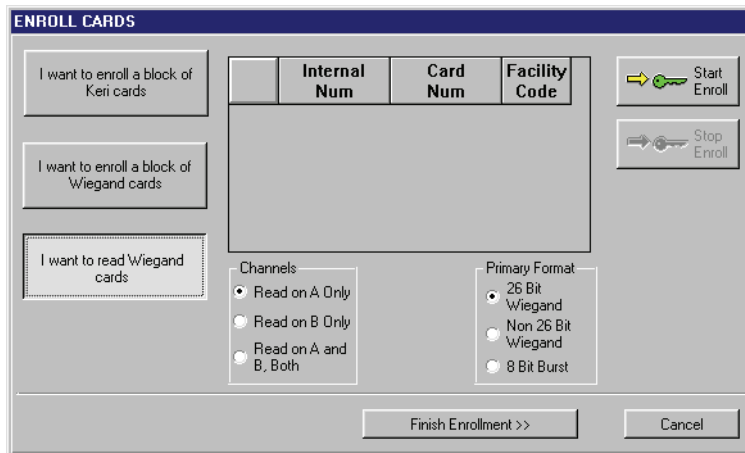

Figure 4-12: Enroll Cards Window for Presenting Wiegand Cards to a Reader
- For enrollment of Wiegand cards by presenting to a reader, click on the . The Enroll Cards window changes for Wiegand card presentation (see Figure 4-12).